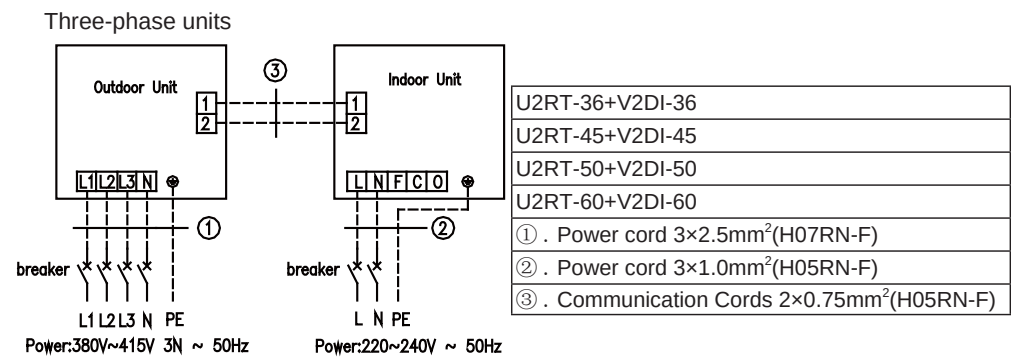

Fig.42
① . The power cord and the wire of the fresh air valve are high-voltage, while the communication cord and connection wire of the wired controller are low-voltage. They should run separately against electromagnetic interference.
② . The high-voltage and low-voltage lines should pass through the rubber rings at different electric box covers.
③ . Do not bundle the connection wire of the wired controller and the communication cord together, or arrange them in parallel, otherwise improper operation would occur.
④ . The high-voltage and low-voltage lines should be fixed separately and securely, with internal big clamps for the former and small clamps for the latter.
⑤ . Tighten the indoor/outdoor connection cord and power cord respectively on the terminal boards with screws. Faulty connection may cause a fire.
⑥ . If the indoor unit connection cord (to the outdoor unit) and power supply are wired incorrectly, the air conditioner may be damaged.
- ⑦ . Connect the indoor unit connection cord properly based on the corresponding marks as shown in Fig.42.
- ⑧ . Ground both the indoor and outdoor units by attaching a ground wire.
- ⑨ . Unit shall be grounded in compliance with the applicable local and national codes.